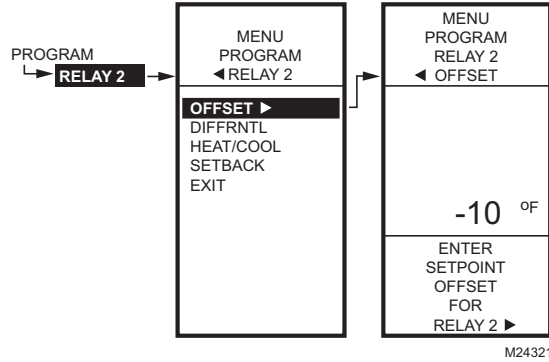

Fig. 11. Program mode — Relay 2 offset.
- Setpoint Offset = -10° F (-12° C) (See Fig. 11)